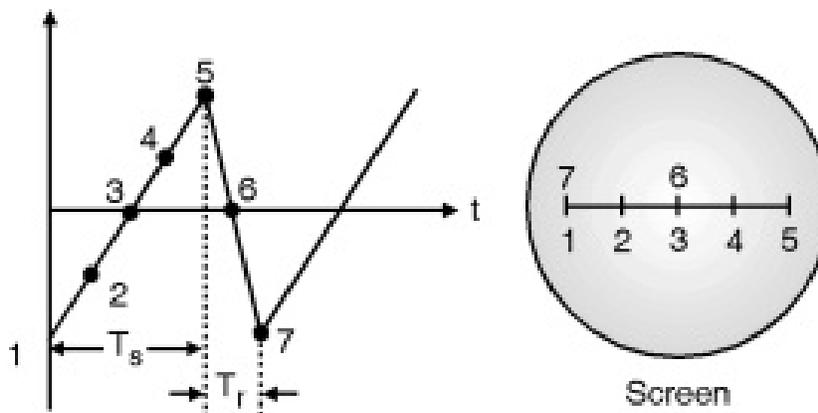

Fig. 7.14.4 : Ramp voltage and its effect on CRO screen
- If there is no voltage applied across Y deflection plates, the image created on screen is shown in Fig. 7.14.4.